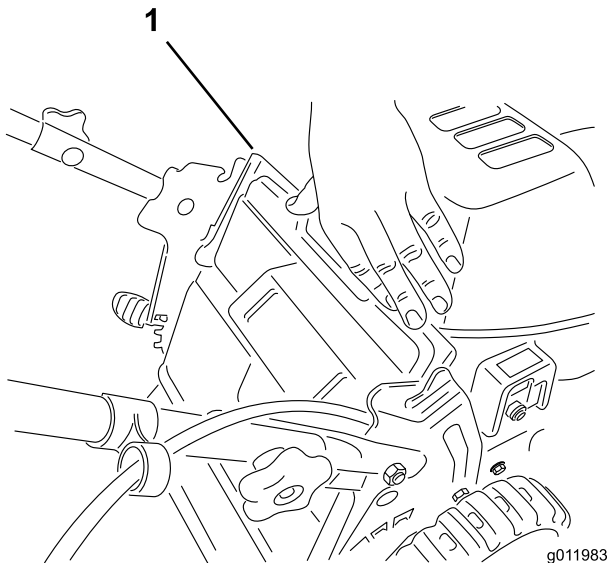

Figure 11
1. Lift up the rear deflector (Figure 11).
2. Wait 30 seconds, then push in the circuit breaker button (Figure 11).